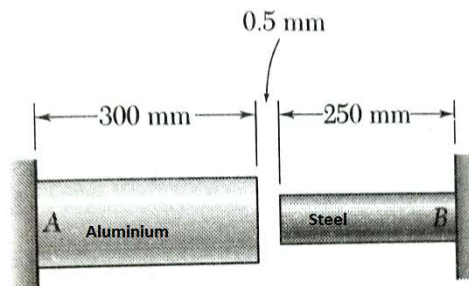

Fig.1
2. (a) A gap of 0.5 mm exist between the ends of the aluminium and steel rods at a temperature of 20°C as shown in Fig.1. If the temperature is raised to 100°C calculate.